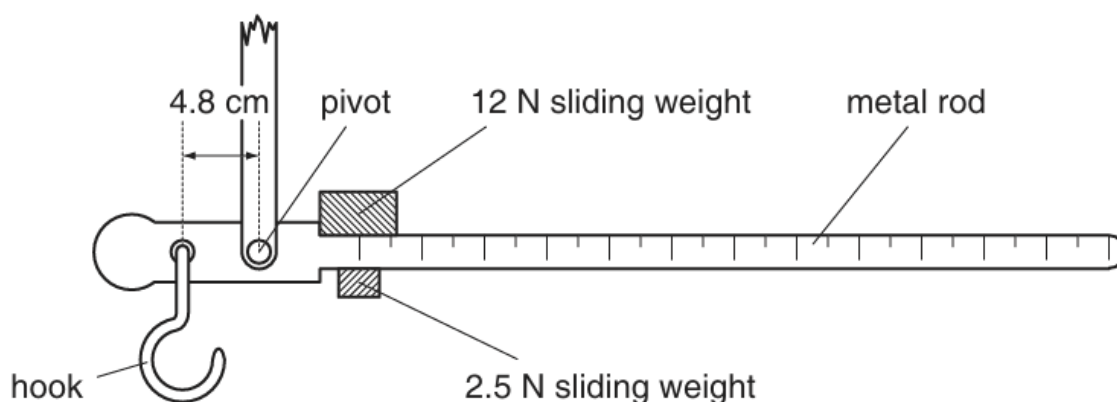

Fig. 3.1
- 3 One type of weighing machine, known as a steelyard, is illustrated in Fig. 3.1.